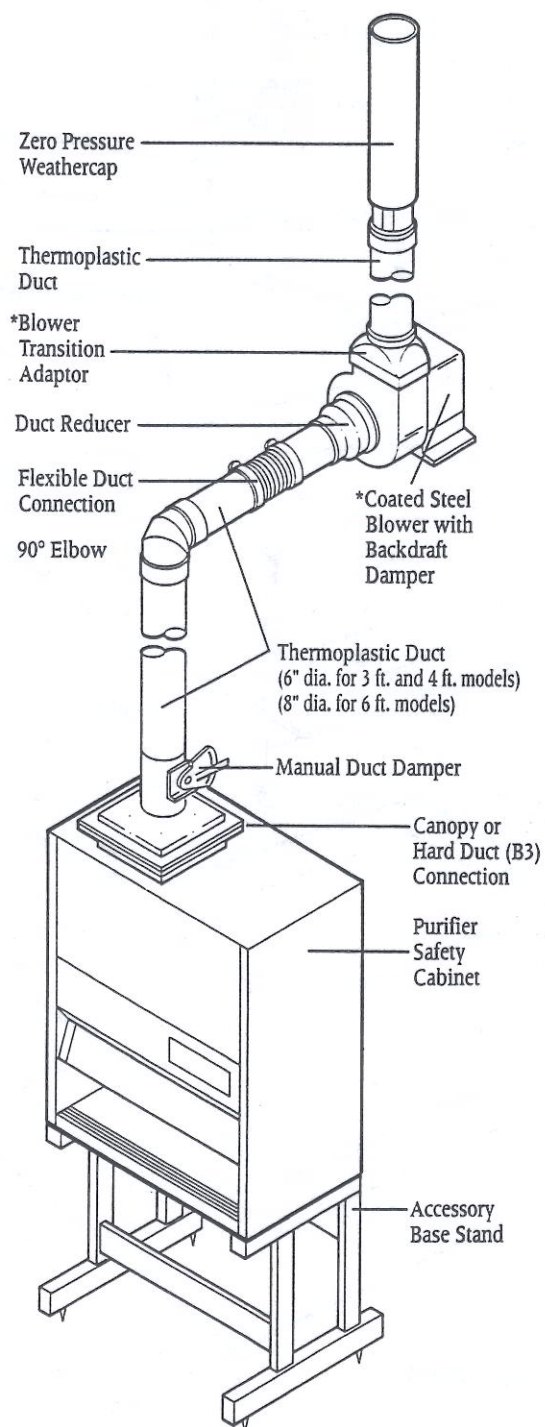

Figure 3
- (5) Connect roof mounted blower package to Purifier using 6 inch diameter thermoplastic duct for 3 ft. and 4 ft. models. Use 8 inch diameter thermoplastic duct for 6 ft. model Purifiers. See Figure 3 on page 8.